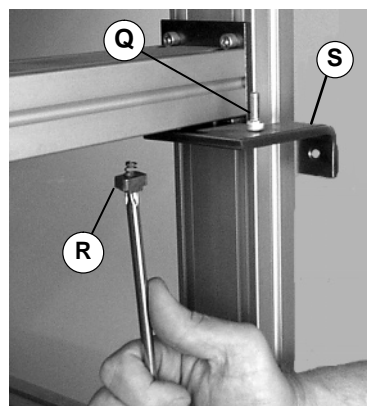

Figure 4
2. Using phillips screwdriver, install four (4) nuts (R of Figure 4) into same T-slot of crossmember.